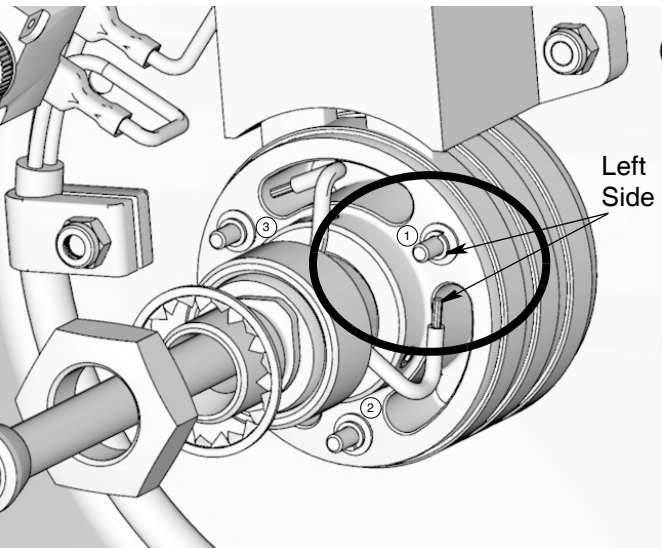

FIG. 17
- 2. Orient cord so wires route to appropriate holes and to the left side of the desired mounting stud as shown in FIG. 17 and Table 3.